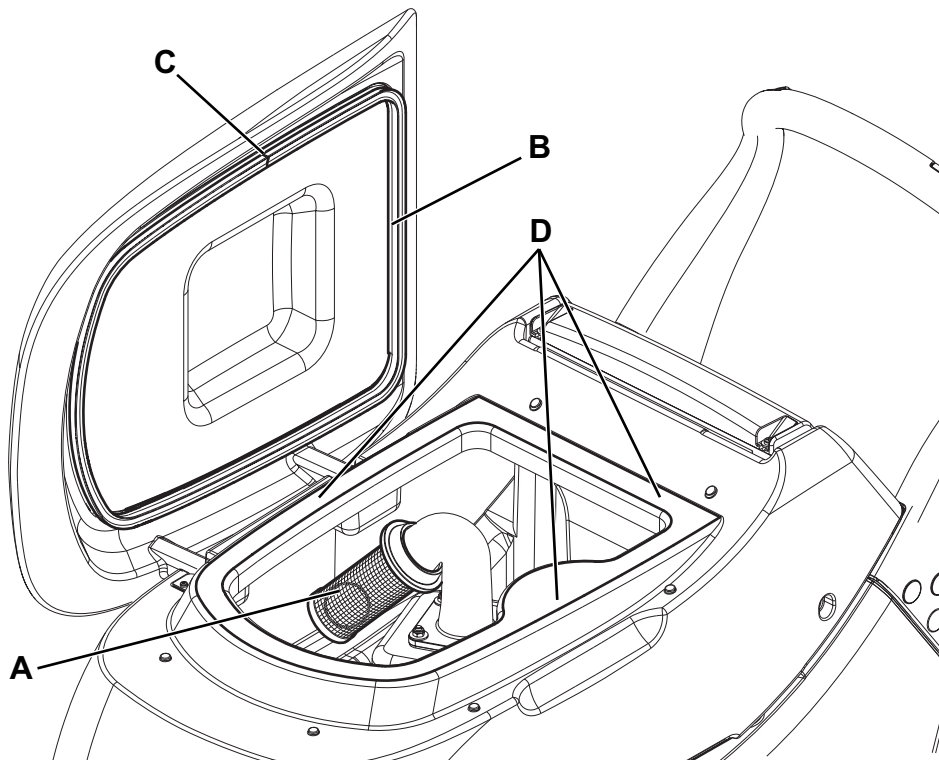

Figure 8
2. Check that the switches (41 and 42) are turned to "0" and disconnect the battery connector (8).
3. Drain the water from the tanks (15 and 16) through the drain hose (11) and hose (12).
4. Open the cover (17), then clean and wash the cover, the tanks and the vacuum grid (30) with clean water.
5. If necessary, remove the grid (A, Fig. 8) clean it carefully and reinstall it.
6. Check the recovery tank cover gasket (B) for integrity.